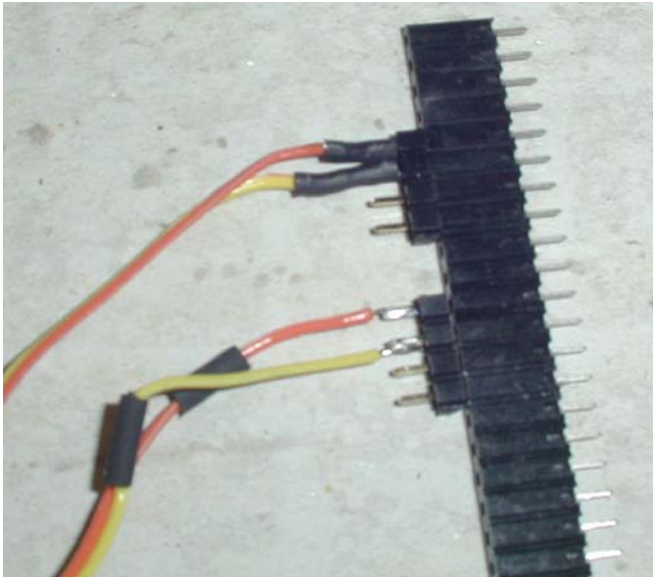
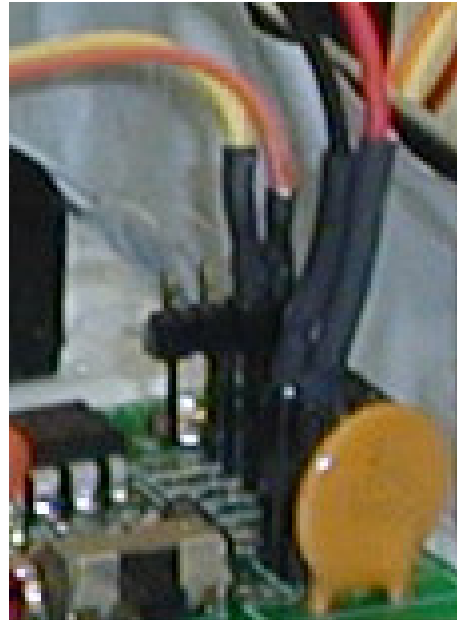

Figure 2 Using Female Connector to Hold Male Connectors While Soldering
Figure 3
1. You will need to make a power cable for your robot to get power from your batteries to your protoboard. TekBots has adopted a 'keyed' connector system for power. This means that in order to work correctly you can only insert your power cables one way. This will help protect you as well as your TekBot. An example of this can be seen in Figure 1. To do this the cable is constructed from two four-position male headers on each end of a two wire cable. Only two of the pins on each connector are used. Make sure that the wires are connected to corresponding pins on both connectors. Figure 2 shows the cable. A female connector strip is used to hold the male connectors while soldering. When soldering wires to the connectors, I recommend tinning the wire and the pin first. Additional solder is usually not needed when you solder the wire to the pin. Insert one end of the cable into the female sockets on the charger board. The two unused male pins on the connector will be over the unused holes on the charger board. See Figure 3.